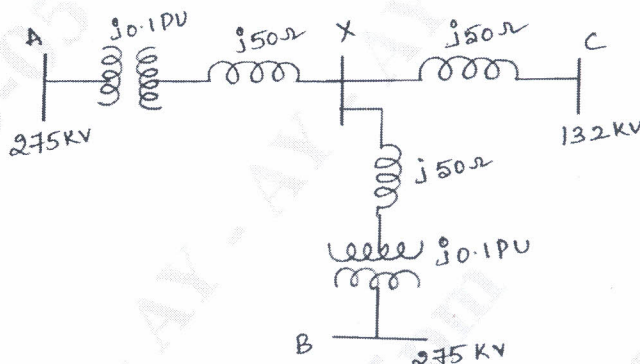

Fig.Q.7(b)
b. Three generating stations are connected to a common bus X as shown in Fig.Q.7(b) below. For a particular load, the line voltage at the bus bar falls by 2 KV. Calculate the reactive power injection required to bring back the voltage to original value. All are in pu values on base of a 500 MVA. (10 Marks)